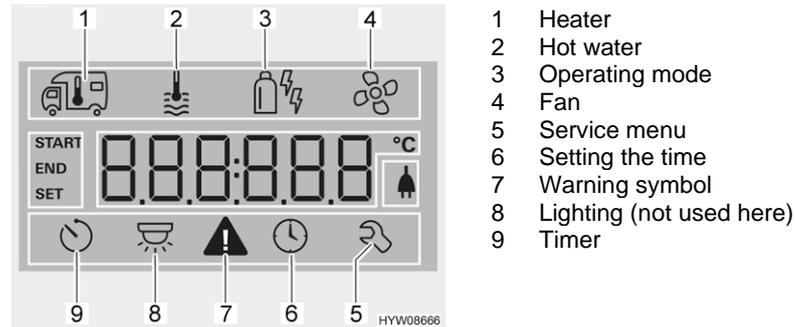

Fig. 87 Display (control unit)
- Turn rotary push button (Fig. 86,6) until the heater menu symbol (Fig. 87,1) flashes.
- Turn the rotary push button (Fig. 86,6) until the hot water menu symbol (Fig. 87,2) flashes.
- Turn rotary push button (Fig. 86,6) until the menu symbol operating mode (Fig. 87,3) flashes.
- Turn rotary push button (Fig. 86,6) until the fan menu symbol (Fig. 87,4) flashes.
- Turn rotary push button (Fig. 86,6) until the timer menu symbol (Fig. 87,9) flashes.
- Press the rotary push button. The timer is activated. The timer symbol (Fig. 87,9) flashes when the timer is programmed and active.
The warning symbol (Fig. 87,7) flashes in the event of a warning. The heater continues to operate. In the event of only a temporary fault, the warning symbol goes out automatically.